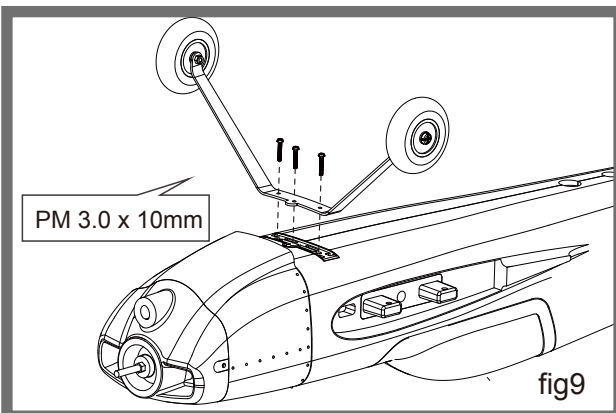

fig9
5. Attach the main landing gear using 3 PM 3.0 X 10mm screws as shown in Figure 9.